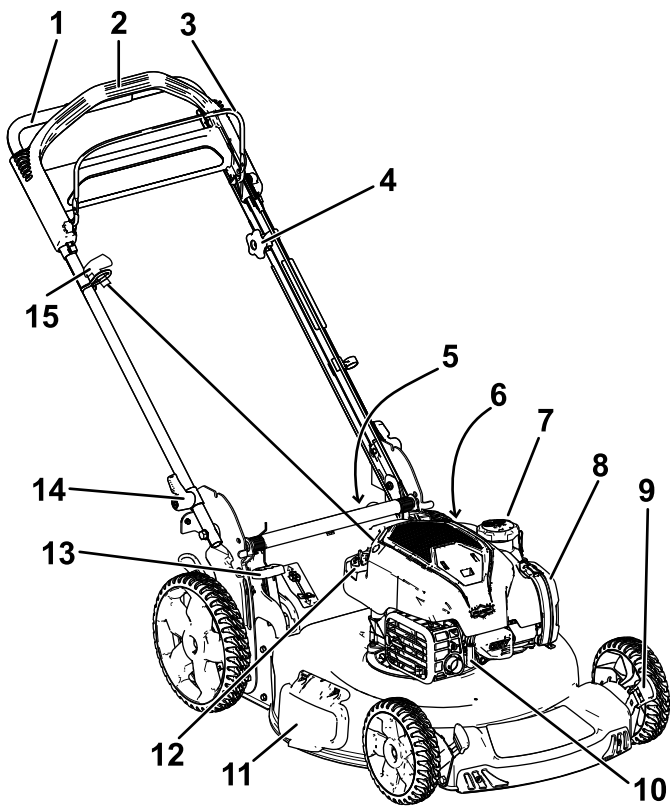

**Figure 8**
2. Hook the bottom channel of the bag onto the bottom of the frame (Figure 8).
3. Hook the top and side channels of the bag onto the top and sides of the frame, respectively (Figure 8).